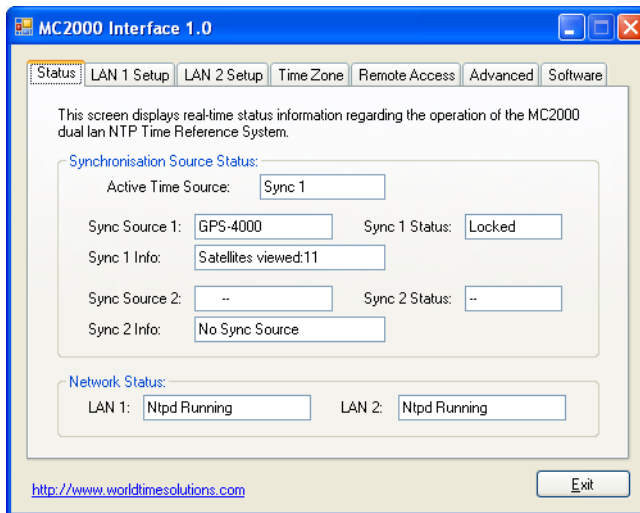
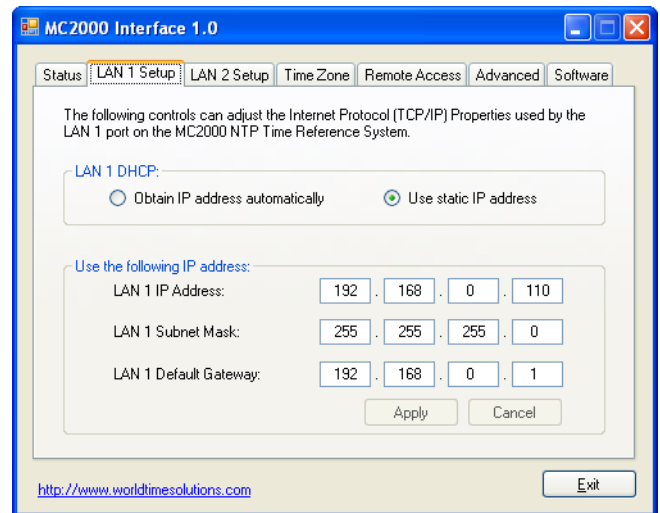
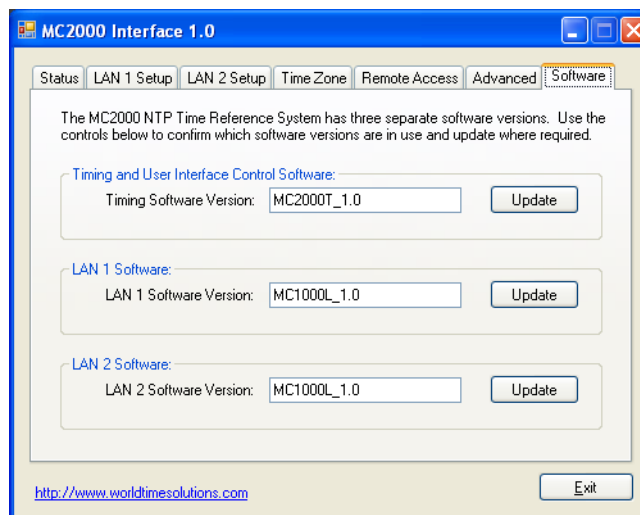
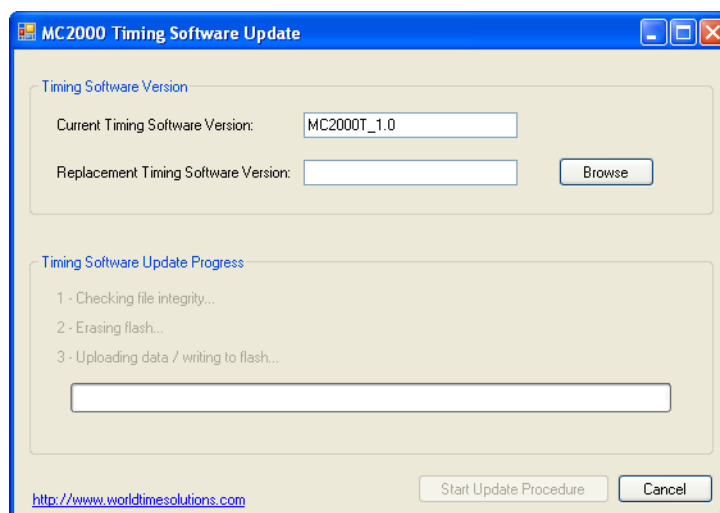

Figure 5.3 - MC2000 Interface application
Figure 5.4 - MC2000 Interface application
Figure 7.1 - MC2000 Interface application - Software Update tab
Figure 7.2 - MC2000 Timing Software Update window
Initially, the status tab is displayed (see figure 5.3). Click on any of the other tab titles near the top of the window to access other tabs (as shown in figures 5.4 - 5.8). The software update tab is shown in Figure 7.1 (see section 7).
- In the main window of the MC2000 Interface software application, click on the 'Software' tab (*see figure 7.1 on the following page*).
- In the section labelled 'Timing and User Interface Control Software', click on the 'Update' button (*see figure 7.1*). The 'Timing Software Update' window will appear (*figure 7.2*).
- In the main window of the MC2000 Interface software application, click on the 'Software' tab (*see previous page figure 7.1*).